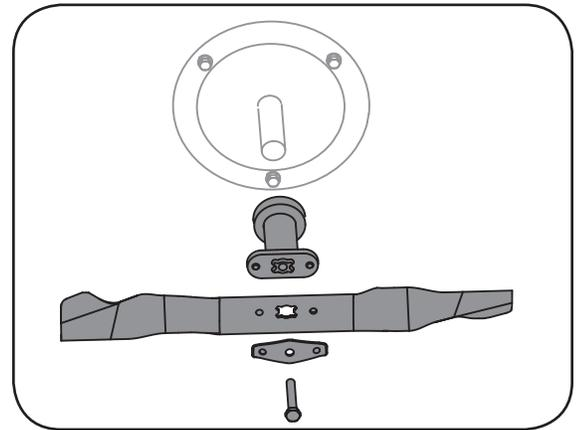

Figure 5-2
1. Remove the bolt and the blade bell support which hold the blade and the blade adapter to the engine crankshaft. See Figure 5-2.
7. Install the blade adapter on the crankshaft with the “star” away from the engine. See Figure 5-2. Place the blade with the side marked “bottom” (or with part number) facing away from the adapter. Align the blade bell support over the blade with the tabs in the holes of the blade and insert the hex bolt.